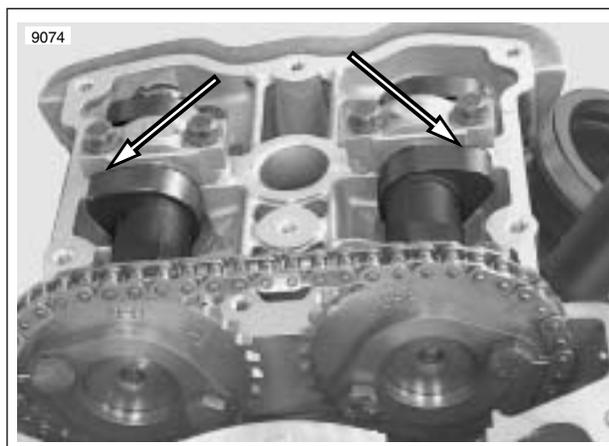

Figure 1-72. Front Cylinder 10 and 2 O'clock Cam Lobe Position
1. See Figure 1-72. Using CRANKSHAFT ROTATING WRENCH (HD-45314), rotate the engine counter-clockwise (direction of operation) to position front cylinder cam lobes at 10 o'clock and 2 o'clock.